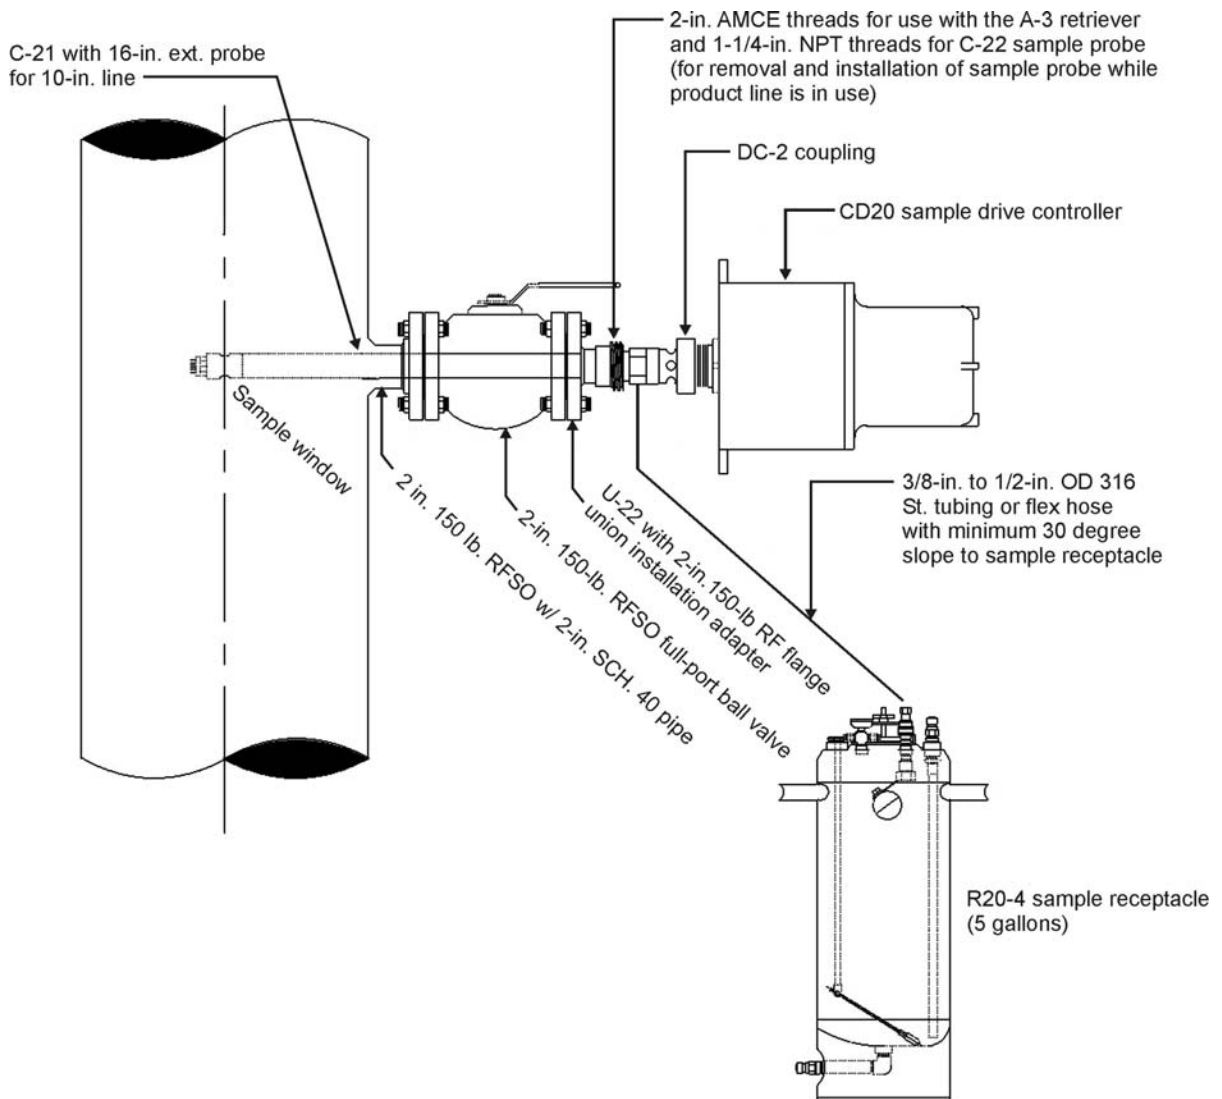

Figure 8—Installation of the C21V/C22V sample probe within a sampling system
3. Connect tubing (1/4 in. to 3/8 in.) from the sample probe to the receptacle so that the tubing slopes continuously downward from the probe (Figure 8).